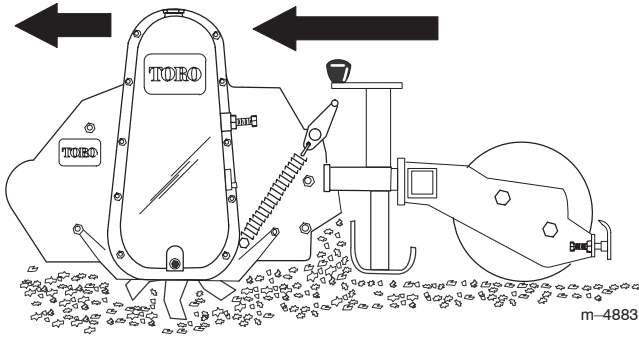

Figure 7
1. Lower the cultivator to the ground, ensuring that the chain case is perpendicular to the ground (Fig. 7).